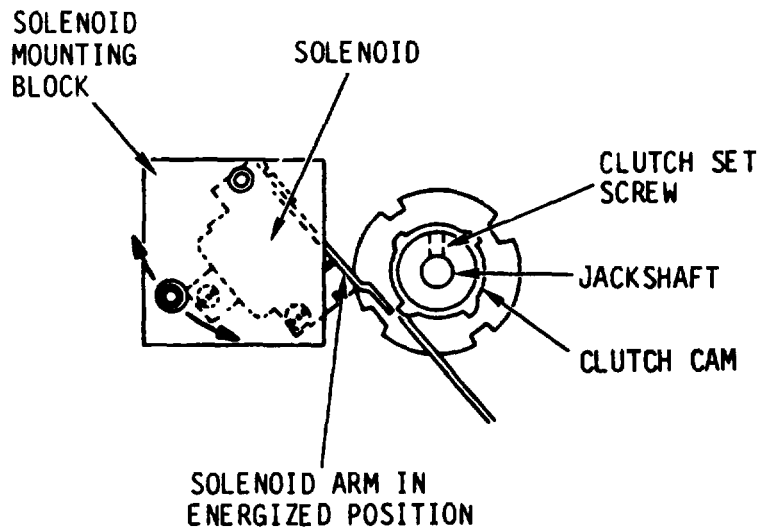

Figure 2-9. Linefeed Operation
(2) When a line feed is selected, the linefeed solenoid (fig. 2-9) is energized with + 25 volts for 12.5 milliseconds. This pulls the linefeed solenoid arm away from the cam and allows the clutch to rotate 1/4 of a revolution. This causes gears connected to the linefeed drive gear to advance the paper one line.